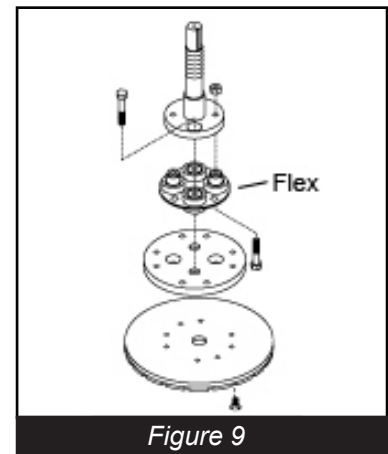

Figure 9
- **Flex Head** can be used preparing a smooth, flat floor to receive a new coating, removing coatings, grind rough concrete surfaces. Can be used with a vacuum or water for dust control but not the same time. (Figure 9)